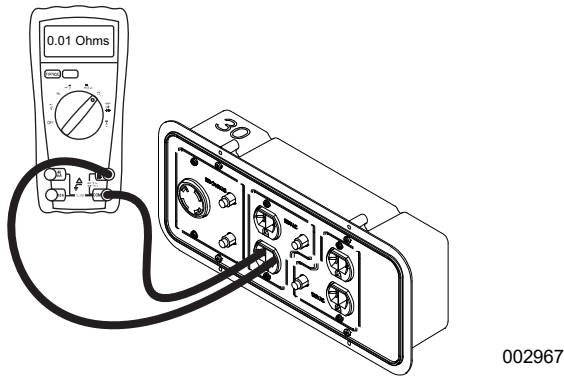

Figure 2-3. Checking Continuity of Receptacles
2. See Figure 2-3. Connect DMM to each receptacle on unit.